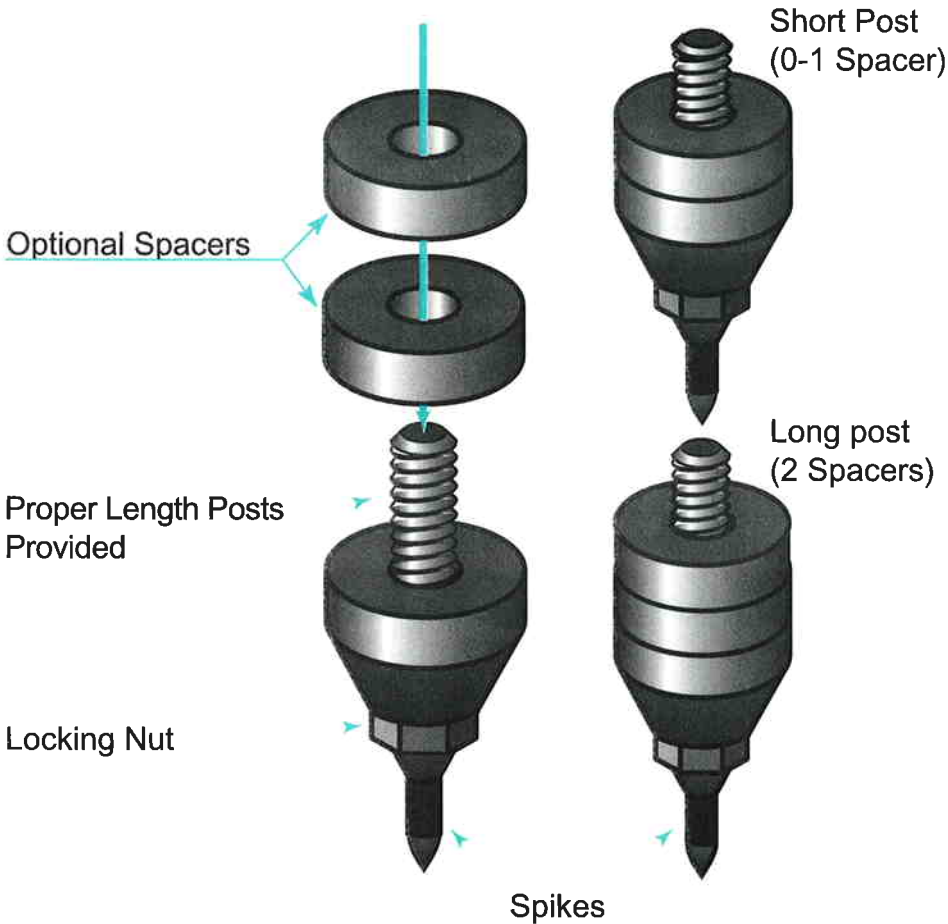
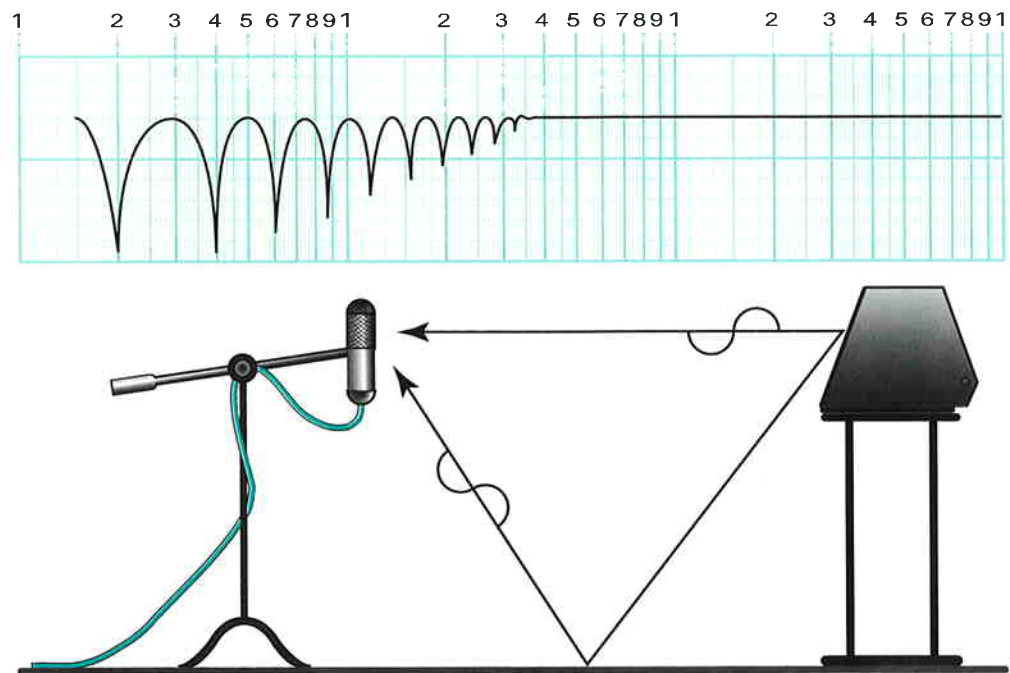

figure 4
figure 7
1. Insert either the short or the long threaded bolt, depending on the desired height (*see figure 4 next page*) as far as it will go into the hole in the bottom of the Puppy.
2. If desired, place the corresponding number of spacer discs (*see figure 4 next page*) over the bolt.
A special type of standing wave noticeable primarily at higher frequencies and shorter wave lengths is the so-called “comb filter effect” (*see figure 7*).
Acoustical comb filtering occurs when sound from a single source, such as a loudspeaker, is directed toward a microphone or listener at a distance. The first sound to reach the microphone will be the direct sound, followed by delayed reflected sound. Because the reflected sound lags in phase relative to the direct sound, there will be cancellation at certain frequencies where the two are 180 degrees out of phase, and augmentation at other frequencies where the direct and the reflected sounds arrive in phase. Because it is a function of wave length, the comb filter effect will notch out portions of the audio spectrum at regular octave-spaced intervals. The subjective effect of comb filter effects, (such as is shown in *figure 4* and *figure 7*) is an added roughness to the sound, a reduction of harmonic richness and a smearing of lateral sound stage image focus and placement. The side wall reflections which cause the comb filter effects are best controlled by careful speaker placement and by the placement of Sonex or air duct panels applied to that part of the wall where the reflection occurs.